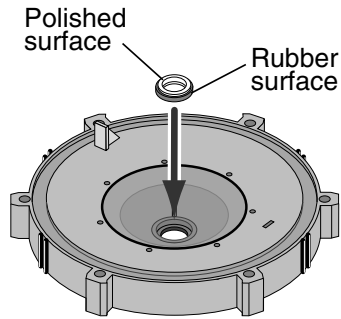

Figure 8
1. Ceramic seat must be clean and free of dirt, grease, dust, etc. Wet outer edge with small amount of liquid detergent; press ceramic seat into seal plate cavity firmly and squarely with finger pressure (Fig. 8).